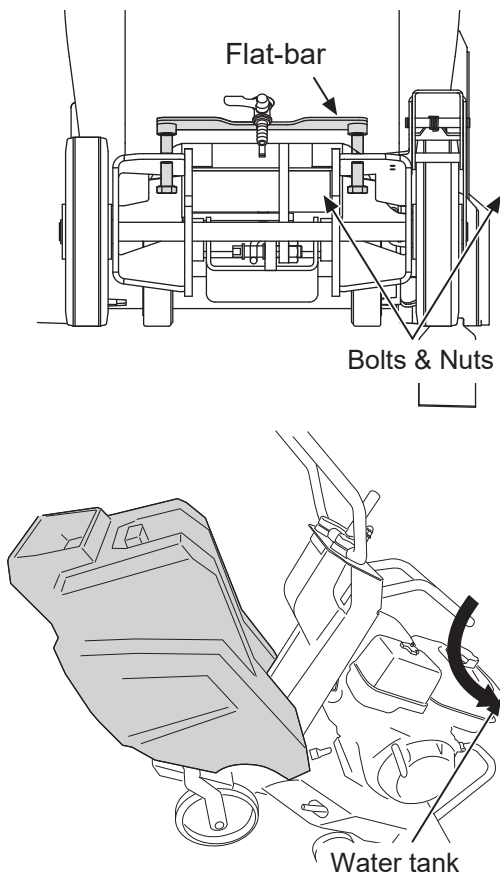

Fig. 7
- Loosen bolts and nuts blow the tank. And take off the flat-bar and water tank. (Fig. 7)
- **How to use cutting depth gauge (Fig. 7)**